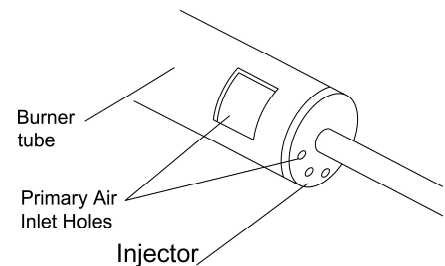

Figure 19 Inject or holder on
2. Inspect burner, pilot and primary air inlet holes on injector holder for dust and dirt (see Figure 19).